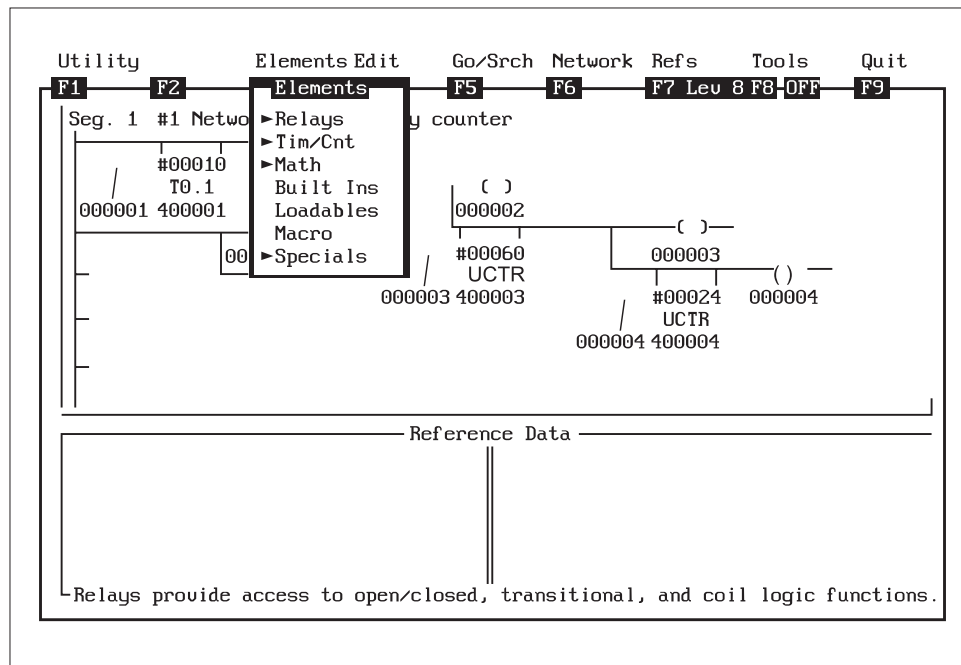

Figure 5-9
12. Select the “Elements” menu. See Figure 5-9.